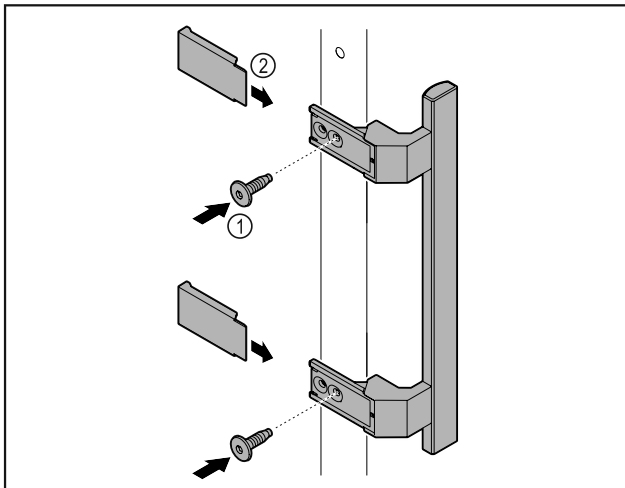

Fig. 63
- ▶ Attach handle from accessory kit to the door using the screws Fig. 63 (1) supplied.
- ▶ Put on cover Fig. 63 (2).